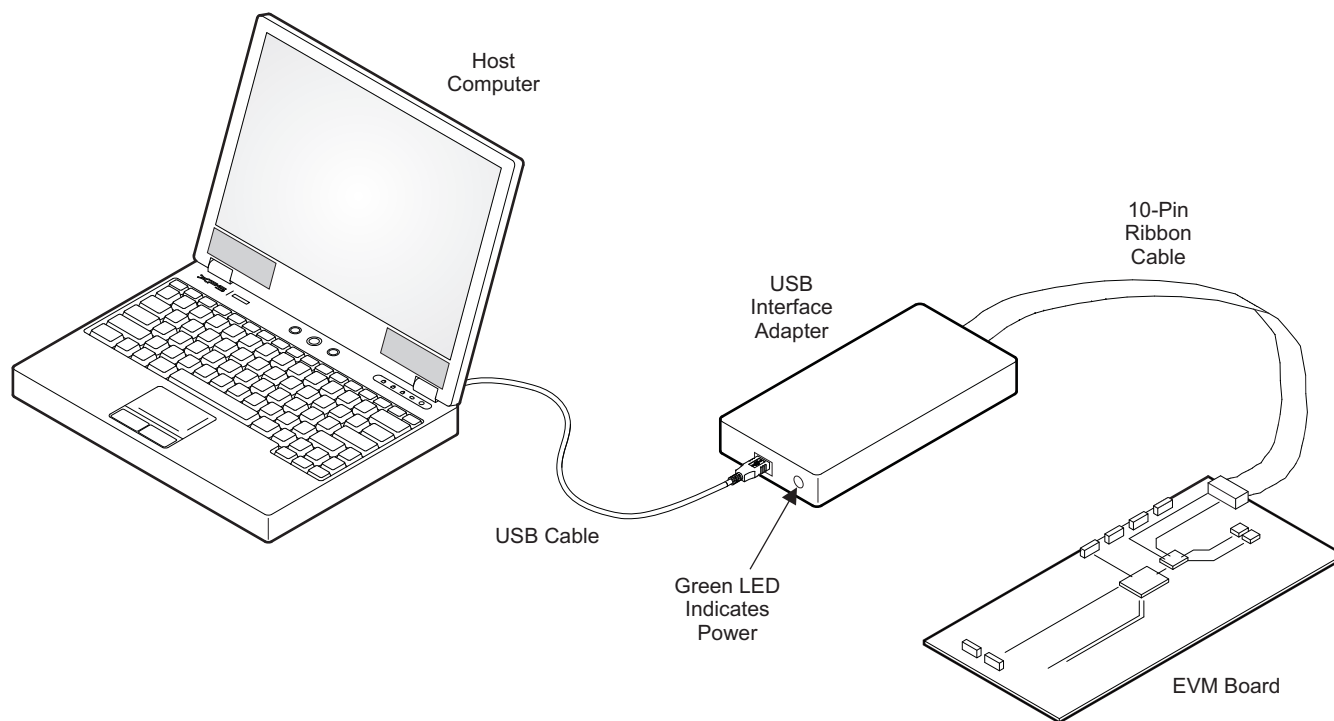

Figure 1. USB Interface Adapter Quick Connection Diagram
- Connect one end of the USB-TO-GPIO box to the PC using the USB cable and the other end to J5 of the TPS61165EVM using the supplied 10-pin ribbon cable per Figure 1. The connectors on the ribbon cable are keyed to prevent incorrect installation.